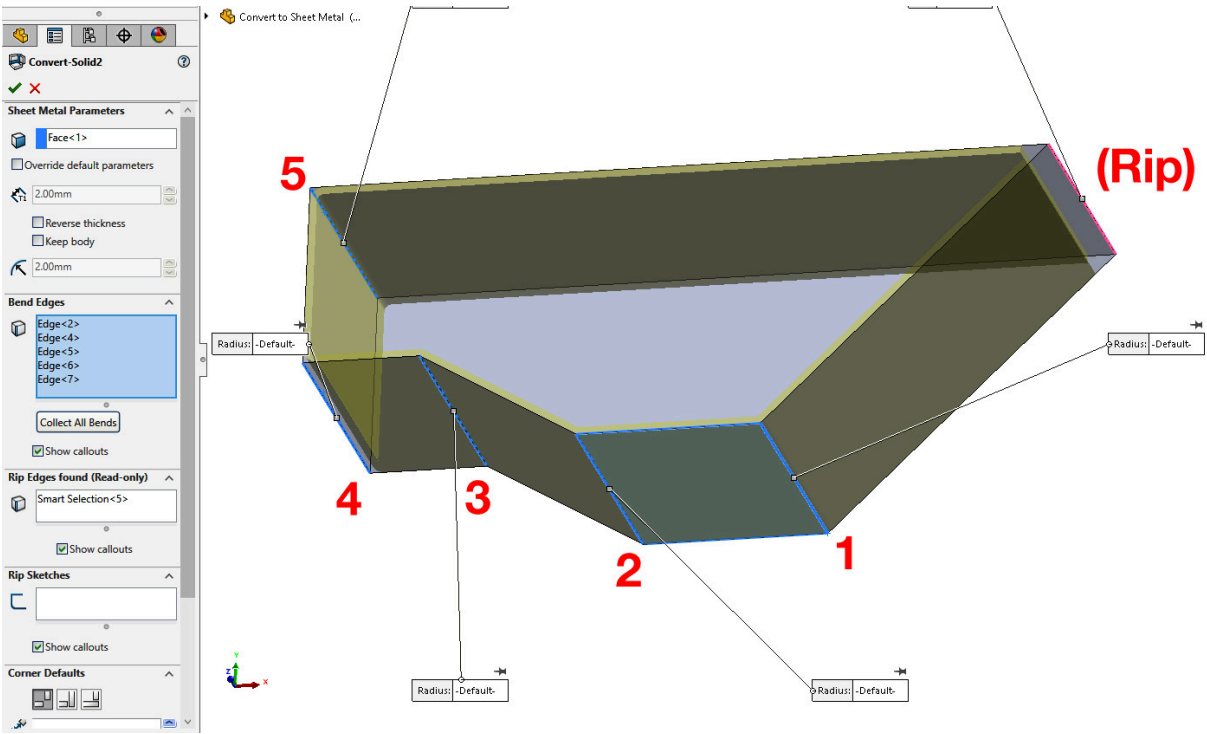

Figure 12.11: Select the five Bend Edges shown
2. Clear all of the selections in the **Bend Edges** selection box. Then select the five edges in the order shown in *Figure 12.11*. If you try to select an edge that is not connected to the Fixed Face (for example, if you try to select Edge 4 before selecting Edge 3) then a warning will pop up; edges must be selected in the correct order so that they are connected to the Fixed Face.